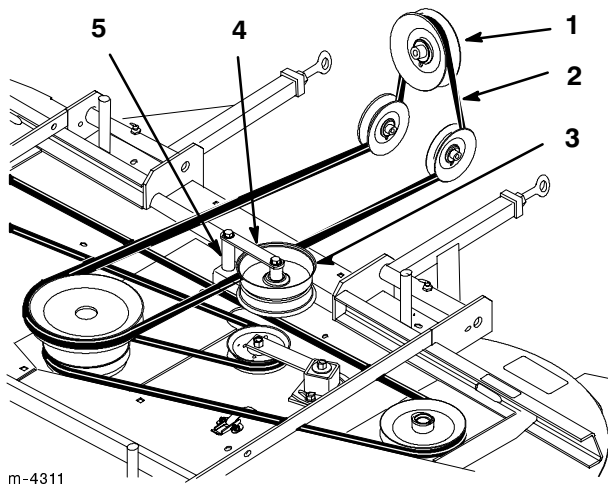

Figure 48
3. Remove PTO drive belt from clutch, around rear idler pulleys and off of mower top center pulley (Fig. 48).
4. Remove bolt, nut, washer and spacer from idler pulley bracket assembly. Remove belt from bracket assembly (Fig. 48).
6. Install belt into idler pulley bracket assembly. Install bolt, nut, washer and spacer into assembly (Fig. 48).